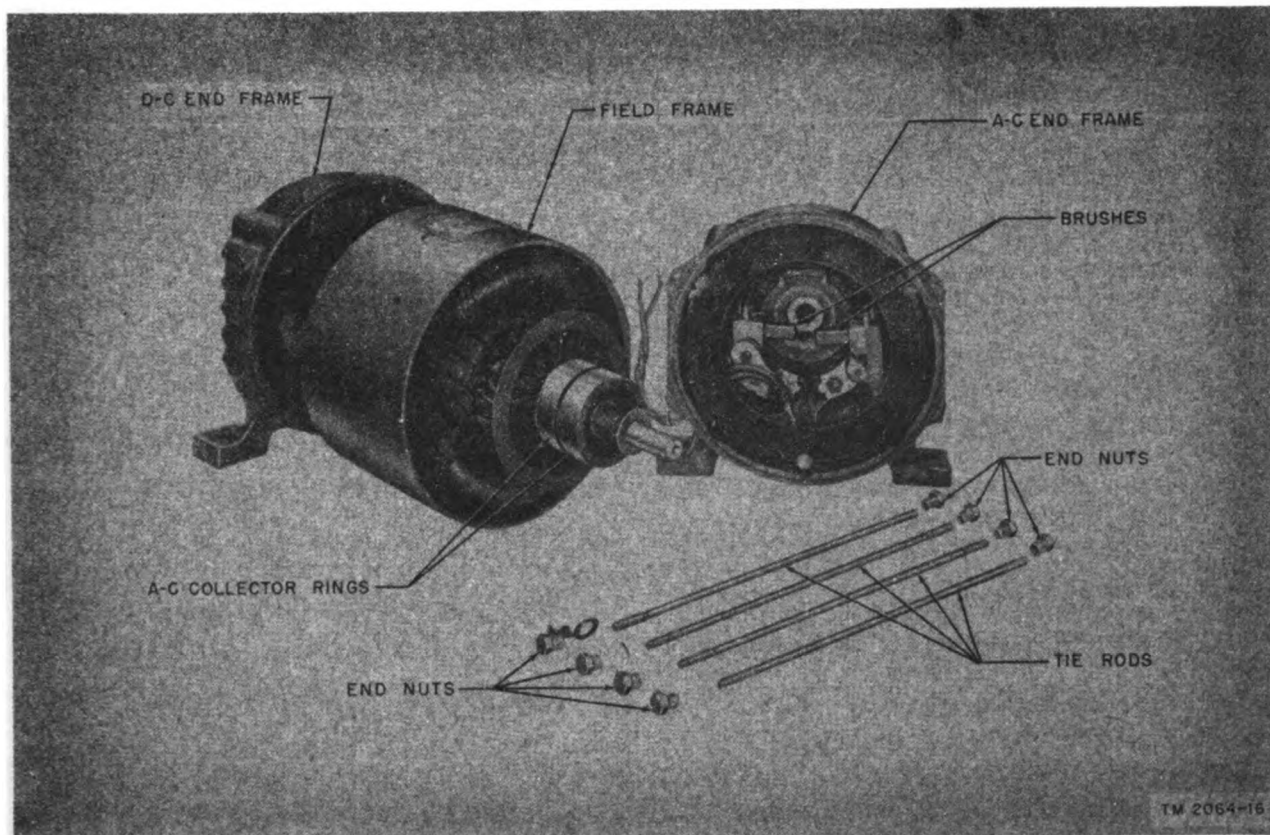

Figure 19. Partially disassembled emergency ringer.
- (1) *Disassembly of emergency ringer.* To clean the shaft ends, remove the emergency ringer from the panel body. Take off the two brush cover plates, loosen the brushes, and remove the four hexagonal head bolts from the d-c end frame. Pull the end frame away from the field frame. Use the same procedure to remove the a-c end frame (fig. 19).